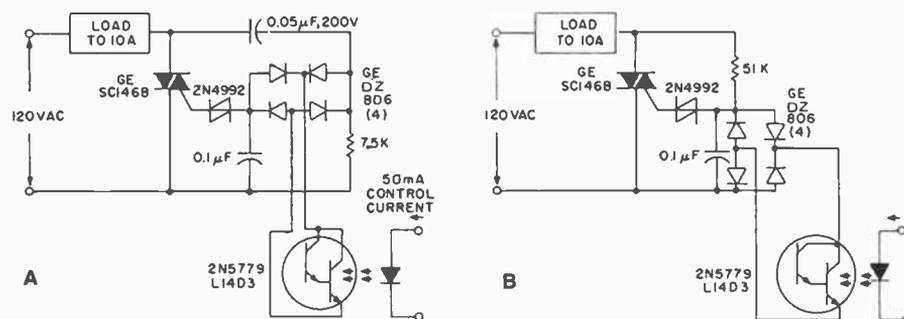

Fig. 4. Photo-Darlington applications: NO and NC relays.
Two of the photo-Darlington's many possible applications are shown in Fig. 4—normally open (A) and normally closed (B) ac line-operated solid-state relays. Both circuits employ medium-current (10 A) triacs in conjunction with silicon bilateral switches (SBS). In each, the photo-Darlington is activated by a LED source to provide full line isolation.